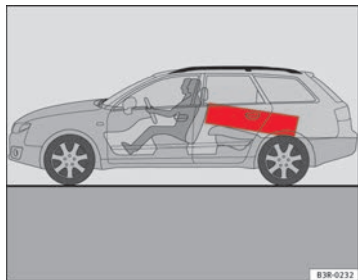

Fig. 116 Position heavy items as far forward as possible.
- Position heavy items as far forward as possible ⇒ **fig. 116**.